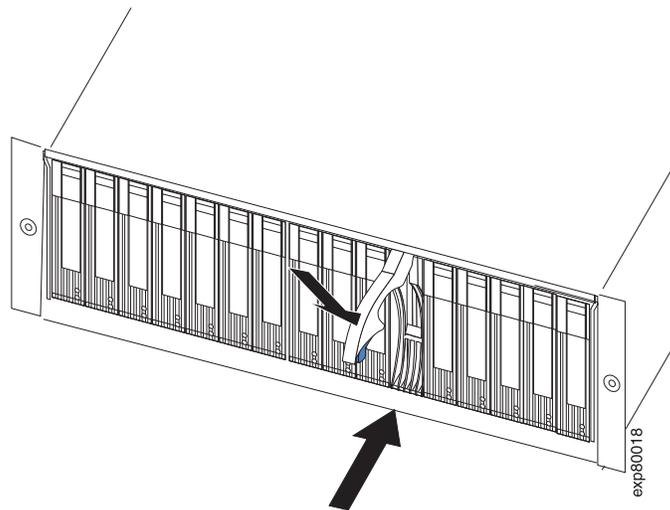

Figure 18. Removing a drive CRU
4. Pull the drive out of the bay, as shown in Figure 18.